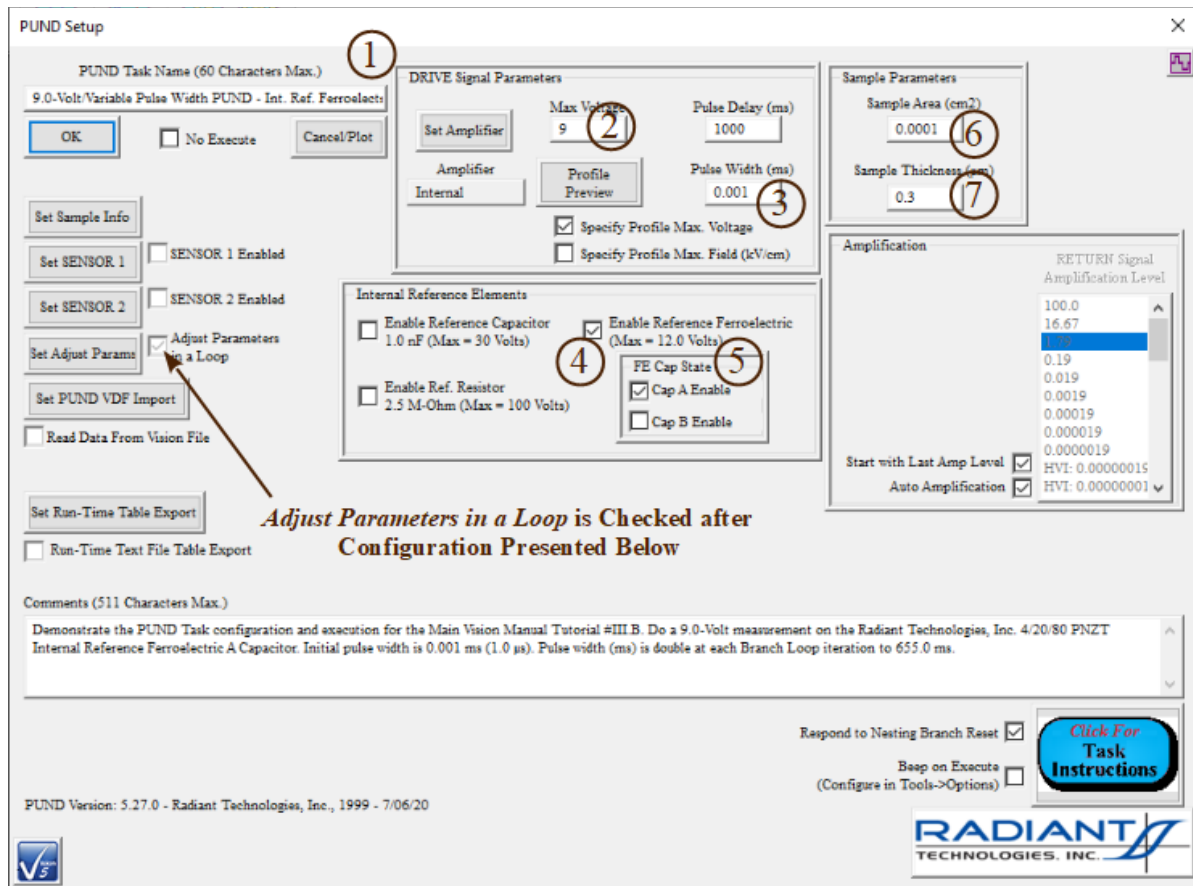

Figure 2 - Configure the PUND Task.
7. Then click *OK* to return to the main dialog. Note that the *Adjust Parameters in a Loop* control now appears checked as in **Figure 2** .